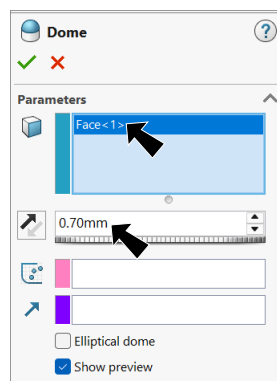

Fig. 27
Step 9. In the Dome Property Manager set: under Parameters, **Fig. 27** click **split line face**,